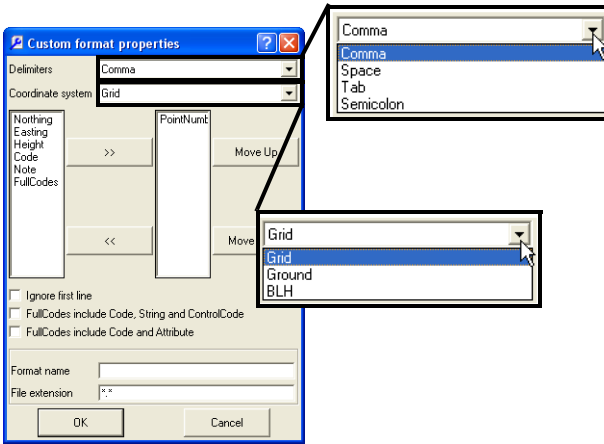

Figure 3-6. Select Delimiters and Coordinate System
6. On the *Custom format properties* dialog box, select the *Delimiters* and *Coordinate system* from the drop-down lists (Figure 3-6 on page 3-10).